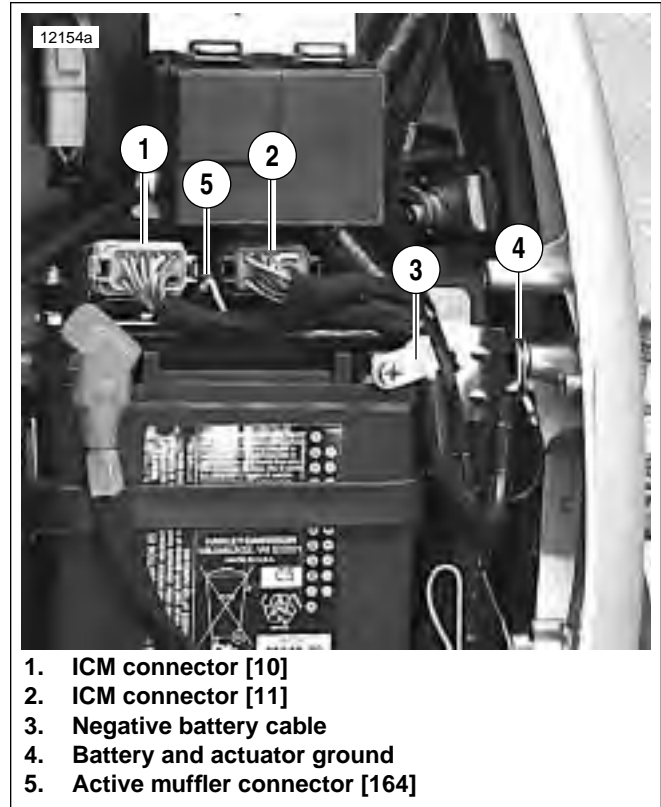

Figure 7-96. Harness and Cable Routing (XB12 Models)
3. See Figure 7-96. Remove negative battery cable (3) from battery. See 7.11 BATTERY.
6. Remove the exhaust actuator ground (4).
7. See Figure 7-96. Separate exhaust actuator harness connector [165] at main harness.